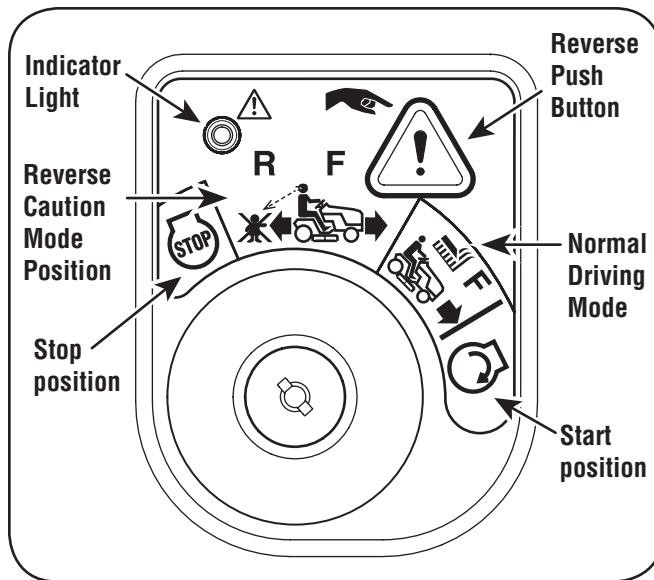

Figure 5-2
3. Depress the REVERSE PUSH BUTTON (Orange, Triangular Button) at the top, right corner of the key switch module. The red indicator light at the top, left corner of the key switch module will be ON while activated. See Figure 5-2.